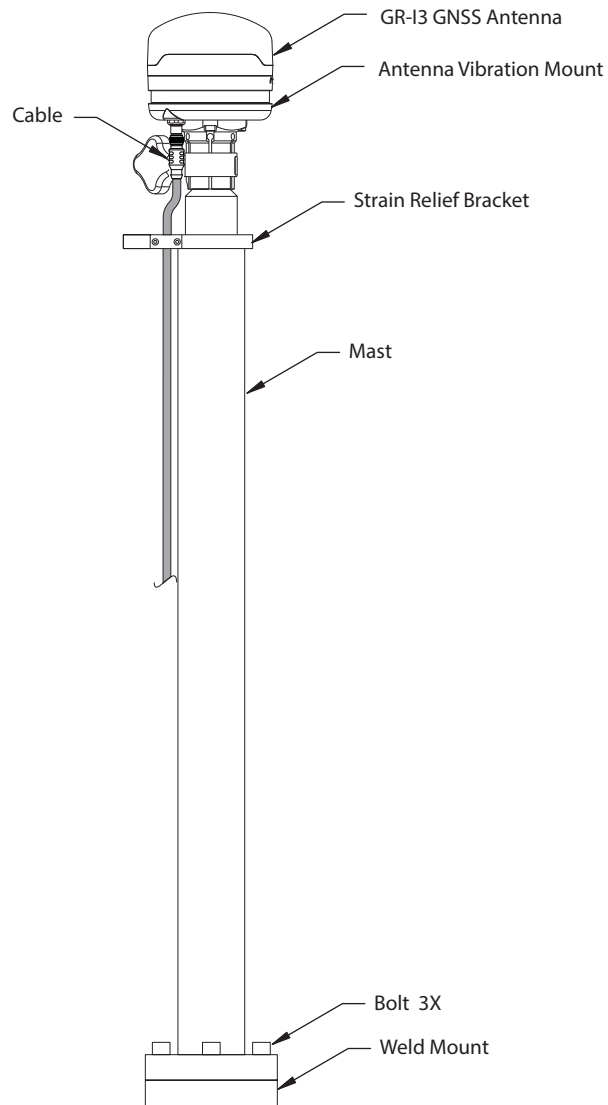

Figure 48: GNSS Antenna Installed on Pole
4. Install the strain relief brackets. Remove the two (2) small bolts to route the TURK CAN cable through the bracket. Ensure enough cable is routed through, so that the cable can be threaded into the GR-i3 BASE (Figure 48 on page 33).
5. Install the GNSS antenna, align the strain relief bracket, and connect the cable (Figure 48 on page 33).